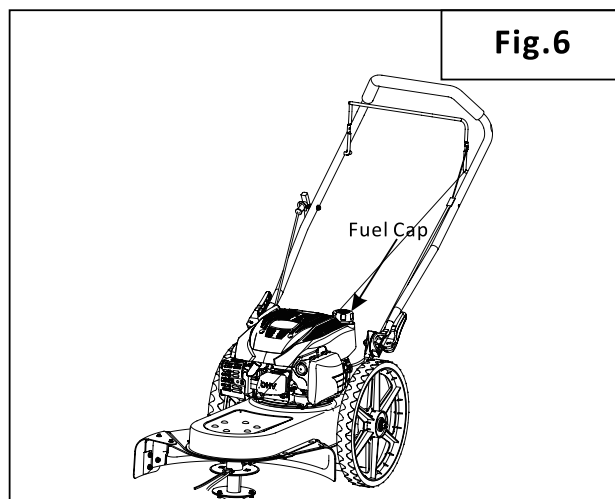

Fig.6
2. Unscrew and remove the Fuel Cap (Fig.6).